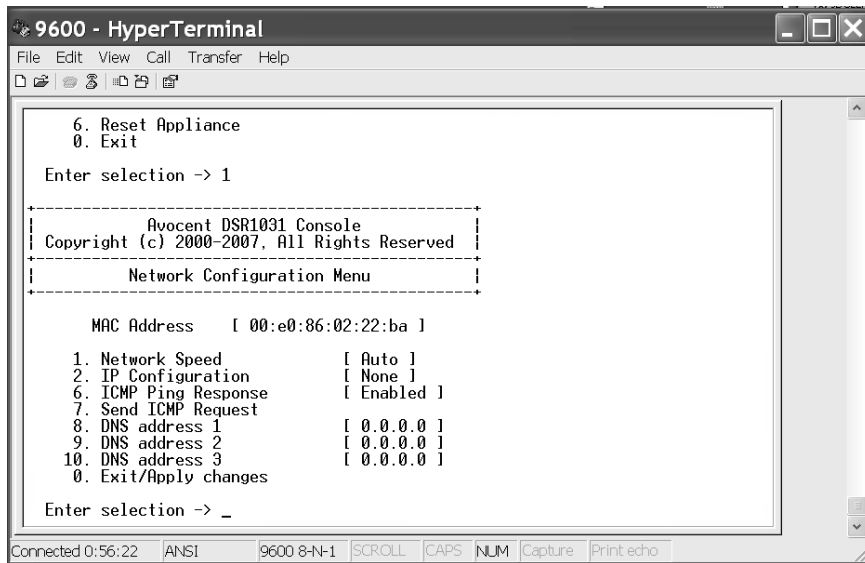

Figure 6.2: Network Configuration Menu
- Once the Console Main menu displays, type the number corresponding to *Network Configuration* and press **Enter** to access the menu shown in Figure 6.2.